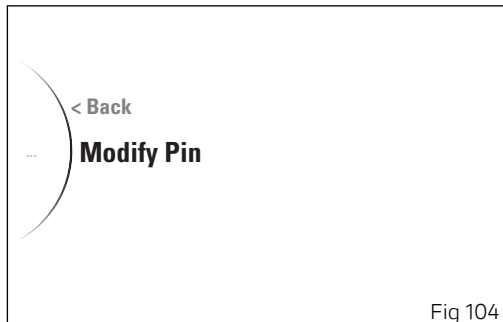

Fig 104
- Select the "Modify Pin" option (Fig 104) and press ENTER button.